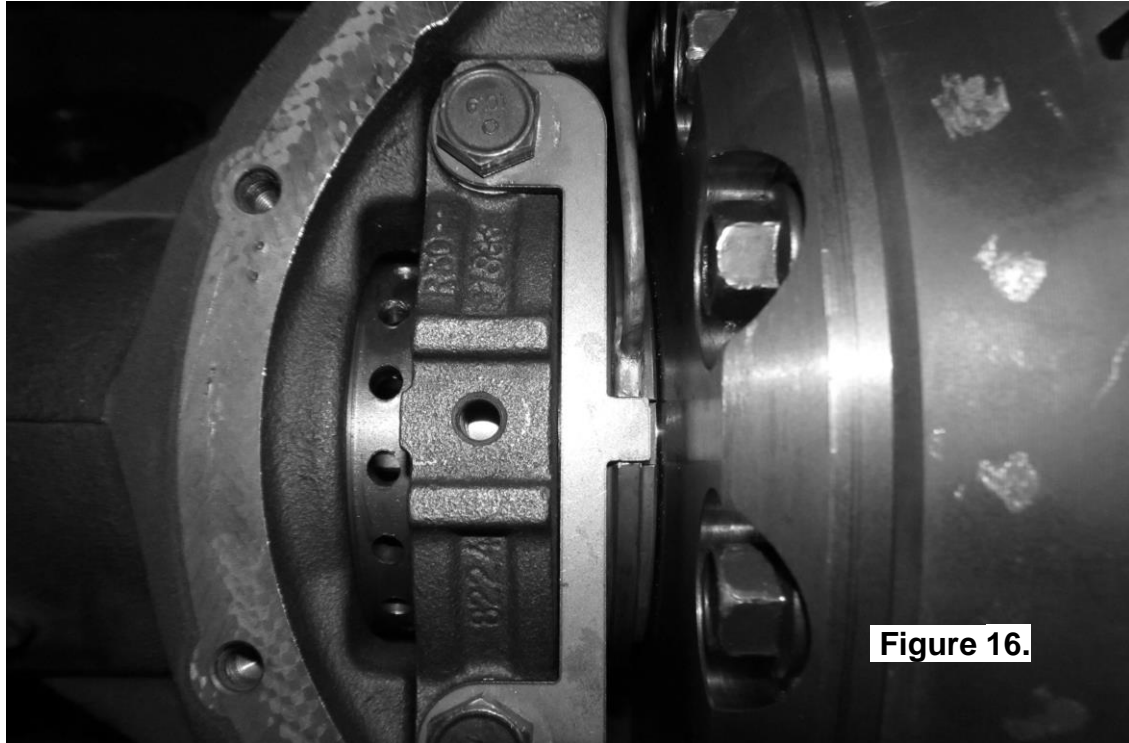

Figure 16.
- Rotate the seal housing so that the slot is pointing straight out of the axle opening. Then install the supplied seal housing bracket with the tab locating in the seal housing slot as shown in Figure 16.